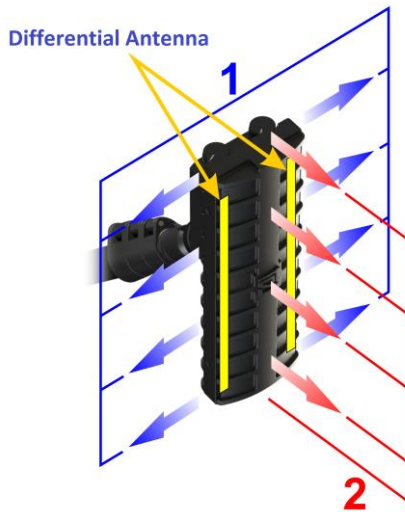
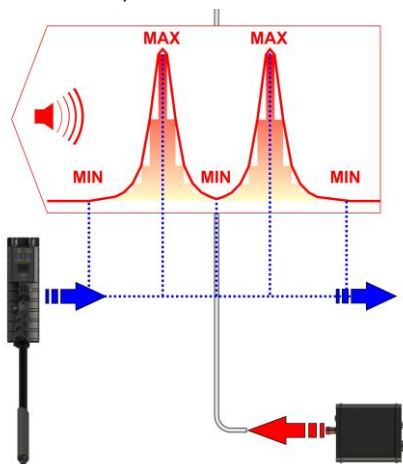
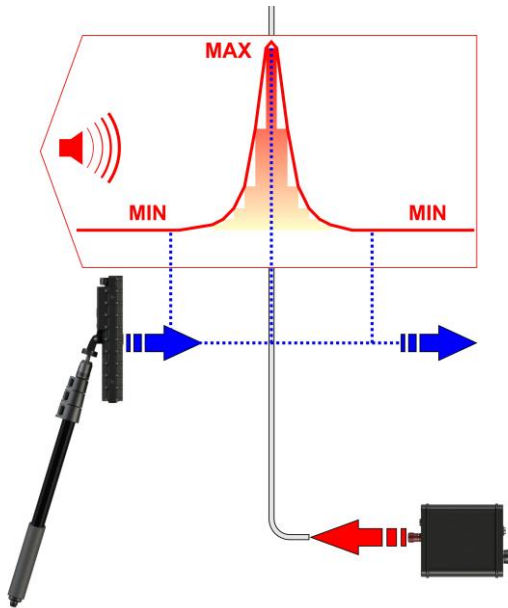

fig.7
fig.8
fig.9
1. Side faces of the main unit are perpendicular to the surface plane (fig.7, direction 1);
2. Front surface of the main unit is parallel to the search plane (fig.7, direction 2).
Fig. 8 shows a diagram of the change in the level of the signal being listened, when the front surface of the main unit moves parallel to the search plane (fig.7, direction 2).
The cable laid in the place where there is a "MIN" between the two peaks (MAX) of the received test signal (on fig.8).
Fig.9 shows a diagram of the change in the level of the signal being listened when the main unit moves with its side face to the search plane (fig.7, direction 1).